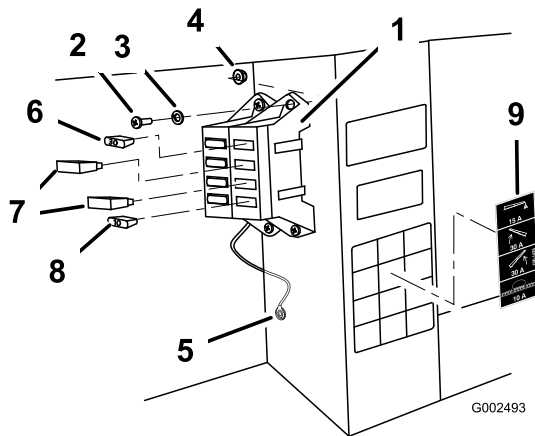

Figure 8
5. Connect the black ground wire to the existing 1/4 inch bolt on the interior side of the vehicle frame, using the star washer (Figure 8).
(#10-24 x 3/4 inch) and two locknuts (#10-24) as shown in Figure 8.
- Install the two 30 amp thermal breakers to the left and right boom lift fuse slots (Figure 8).
- Install the 10 amp fuse to the spray system power fuse slot (Figure 8).